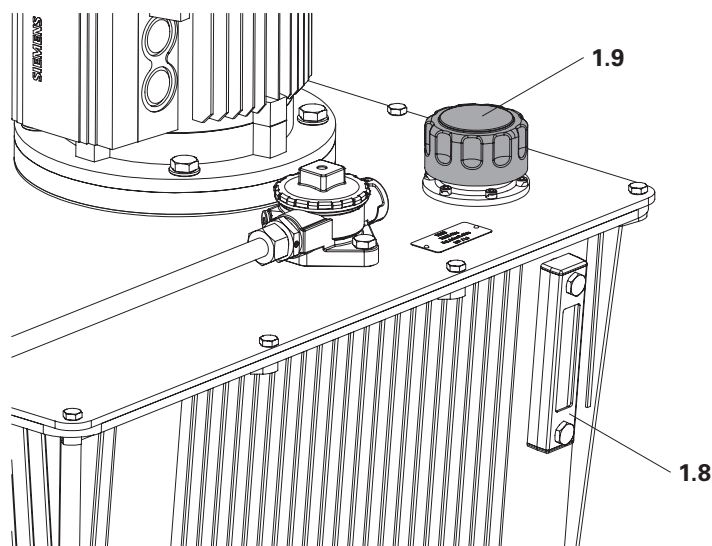

Fig. C1.01
- (Fig. C1.01)
1. Read the operating temperature and oil level on the oil level indicator with temperature display (**1.8**). (Fig. C1.01)